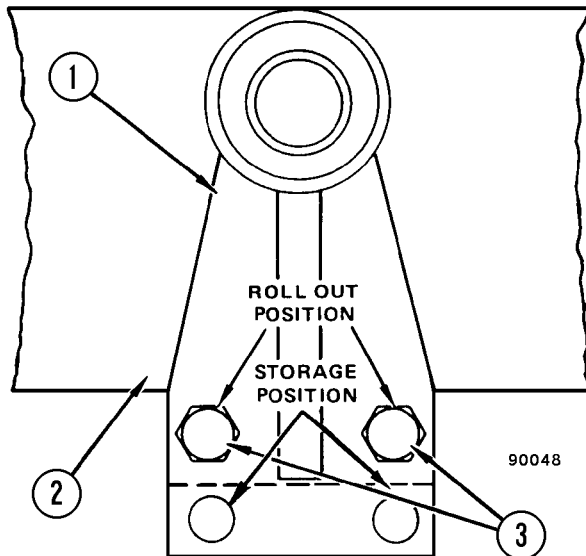

FIGURE 50-8. SUBFRAME ROLLERS
24. Place a jack under the rear of the power module. Raise the rear portion of engine subframe and install subframe rollers (see Figure 50-8). Lower the rear portion of the subframe carefully until the rollers rest on the main frame guide rail.
NOTE: Subframe rollers are supplied in the optional truck tool group and can be installed in the storage position after use as shown in Figure 50-8.